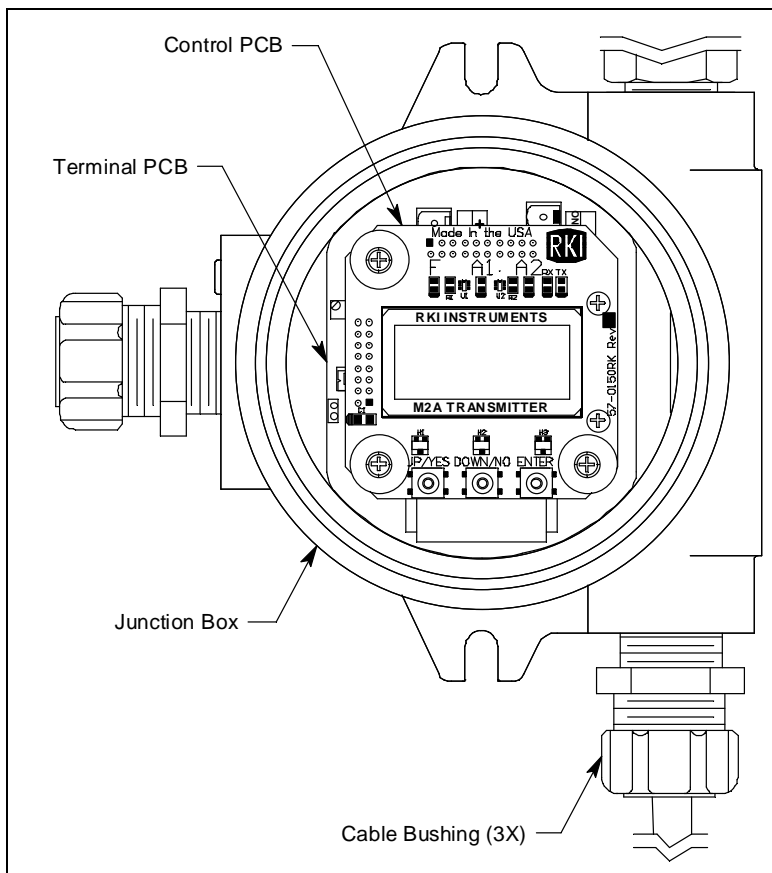

Figure 4: M2A Rig Monitor Internal Components
6. Locate the relay terminal strips. See Figure 4 to assist you in locating the relay terminal strips.